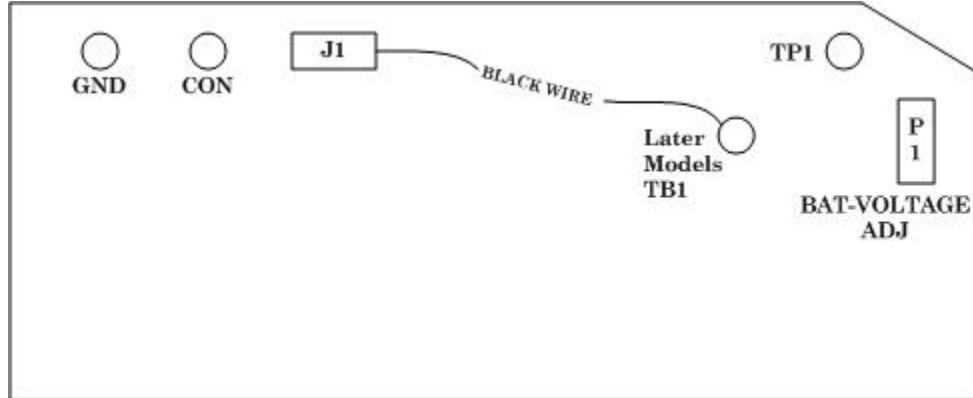
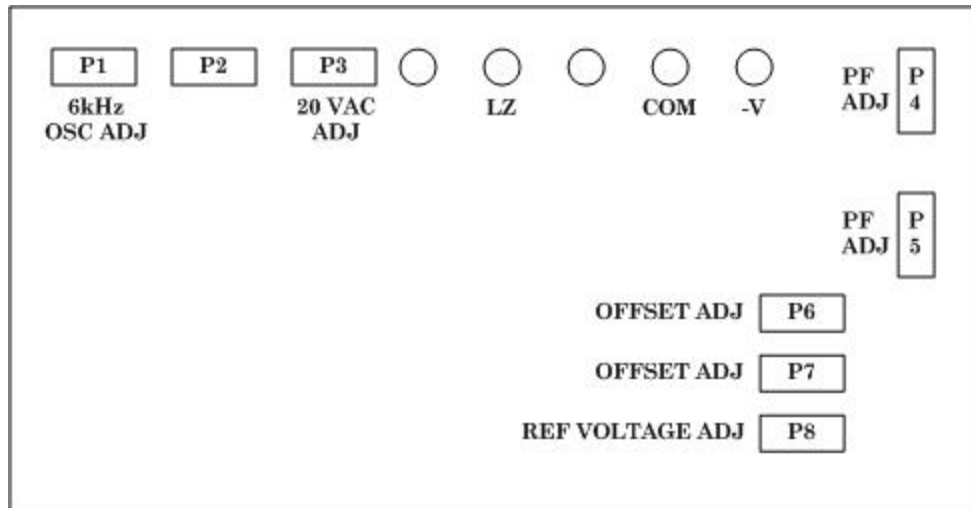

Figure 1. PCB2 Board adjustments.
Figure 2. PCB1 board adjustments.
(1) Adjust DC power supply for a 6.8 Vdc indication on multimeter.
(2) Adjust P1 and PCB2 board (fig. 1) until the LO-BAT legend just starts to appear on TI digital indicator.
- (1) Position TI controls as listed in (a) through (d) below.
- (2) Using an X10 attenuator, connect frequency counter to TI LZ (+) and COM (-) on PCB1 board (fig. 2).
- (3) Set DC power supply and TI power to **ON**.
- (4) Depress and hold TI **PRESS TO READ CAP(pF)** pushbutton. Frequency counter will indicate 6 kHz \pm 50Hz. If not, perform **b** (1) below. Release TI **PRESS TO READ CAP(pF)** pushbutton.
- (5) Set TI **ON/OFF** switch to **OFF**.
- (6) Set DC power supply to **OFF**.
- (7) Disconnect frequency counter from set-up.
- (8) Connect multimeter to TI L-Z (+) and COM (-) on PCB1 board (fig. 2).
- (9) Set DC power supply to **ON** and TI **ON/OFF** switch to **ON**.
- (10) Depress and hold TI **PRESS TO READ CAP(pF)** pushbutton. Multimeter will indicate between 19.7 and 20.3 Vac. If not, perform **b** (2) below. Release TI **PRESS TO READ CAP(pF)** pushbutton.
- (11) Set test equipment power to off. Disconnect multimeter from set-up.
- (1) Depress and hold TI **PRESS TO READ CAP(pF)** pushbutton and adjust P1 on PCB1 board, (fig. 2), for 6 kHz on frequency counter.
(2) Depress and hold TI **PRESS TO READ CAP(pF)** pushbutton and adjust P3 on PCB1 board, (fig. 2), for 20 Vac on multimeter.
- (1) Connect multimeter positive input to junction of R17, R18 and C20 and negative input to COM on PCB1 board (fig. 2).
- (2) Set TI and DC power supply to **ON**. Adjust P4 on PCB1 board (fig. 2) for 0 volts \pm 0.0001V on multimeter.
- (3) Repeat technique of **b** (1) above with multimeter positive input connected to junction of R19 and C21 and negative input connected to COM on PCB1 board (fig. 2).
- (4) Repeat technique of **b** (2) above using adjustment P5 on PCB1 board (fig. 2) for 0 volts \pm 0.0001V on multimeter.
- (1) Connect multimeter positive input to TP1 and negative input to COM on PCB2 board as shown in fig. 1. (Substitute TB1 for TP1 on some later models).
- (2) Set DC power supply to **ON**.
- (3) Set TI **ON/OFF** power switch to **ON**.
- (4) Multimeter will indicate 1.0 Vdc \pm 0.002 V. If not, perform **b** below.
- (5) Set test equipment power to off. Disconnect multimeter from TI.
b. Adjustments. Adjust P8 on PCB1 board (fig. 2) for 1.0 Vdc on multimeter.
- (1) Depress and hold **PRESS TO READ CAP(pF)** pushbutton and adjust P6 on PCB1 board (fig. 2) for 100pF on TI digital indicator.
- (2) Depress and hold **PRESS TO READ CAP(pF)** pushbutton and adjust P7 on PCB1 board (fig. 2) for 100pF on TI digital indicator.